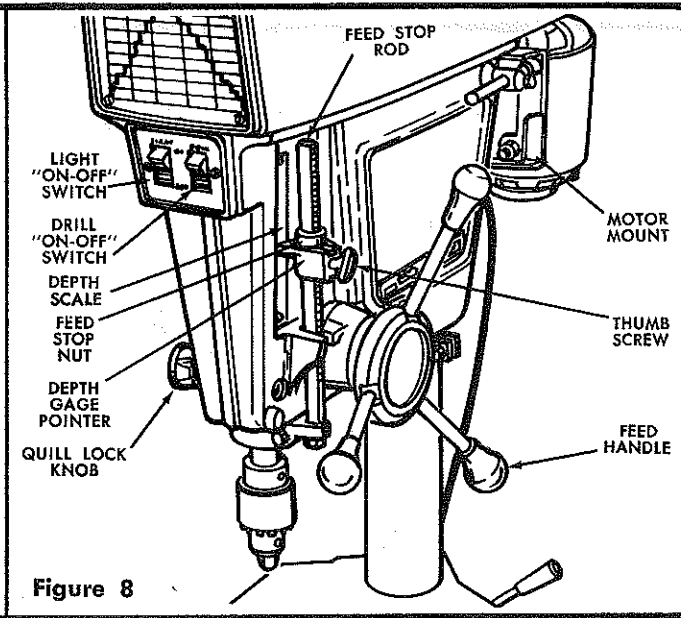

Figure 8
7. Screw thumb screw partly into depth gage pointer. Place depth gage shoe inside depth gage pointer. Slide the depth gage pointer onto the feed stop rod and tighten thumb screw. Screw the feed stop nut on the feed stop rod (See figure 8). Make sure depth gage pointer is positioned on feed stop rod with pointer on top.
8. Install a 60-watt incandescent bulb in the socket inside of head. Mount lens with (2) pan hd. mach. screws #10-32 x 9/16 long.
2. **Feed Stop Rod.** Carries the feed stop nut and depth gage pointer (see figure 8).
3. **Feed Handle.** The feed handle is used to raise and lower the quill a total distance of four inches. (See figure 8).
4. **Quill Lock Knob.** The quill lock knob (when tightened) holds the quill at any depth of cut for such operations as shaping, routing, surface grinding, etc. (See figure 8). Always release the quill lock before attempting to raise or lower the quill.
7. **Feed Stop.** The feed stop assembly provides a means of pre-setting hole depths before drilling or for drilling several holes to the same depth. (See figure 8). The depth gage pointer thumb screw (when tightened) holds the depth gage pointer in place. The feed stop nut prevents the depth gage pointer from moving when it reaches the maximum travel.
- b. With drill installed in chuck, loosen quill lock knob and lower quill by rotating feed handle until tip of drill contacts top surface of work piece. Tighten quill lock knob. (See figure 8.)
8. **Motor Mount.** The motor mount is designed with a hinge arrangement in order to make changing of spindle speeds easy and rapid. In addition, a quick-type belt adjusting rod has been provided, which will, in effect provide a solid motor mount and maintain proper belt tension when the drill press is operating (See figure 8).
9. **Switches.** The light and the motor are controlled by separate switches located on the front of the drill press head (See figure 8).